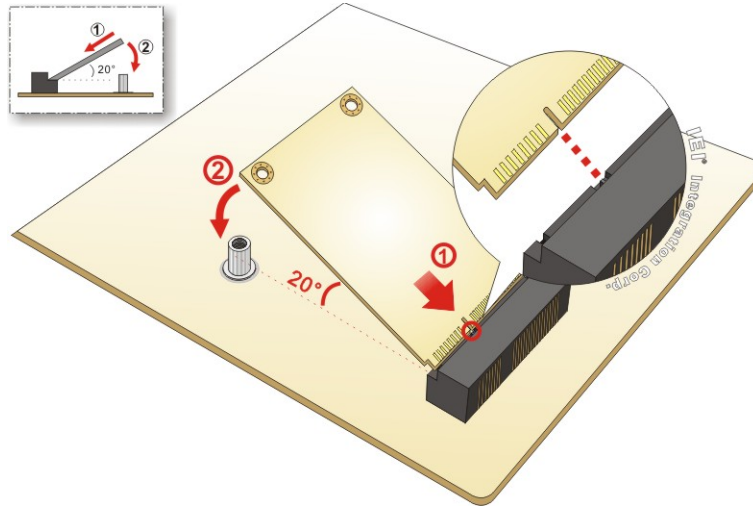

Figure 3-5: Inserting the PCIe Mini Card into the Slot at an Angle
Step 4: Line up the notch on the card with the notch on the slot. Slide the PCIe Mini card into the socket at an angle of about 20° (**Figure 3-5**).